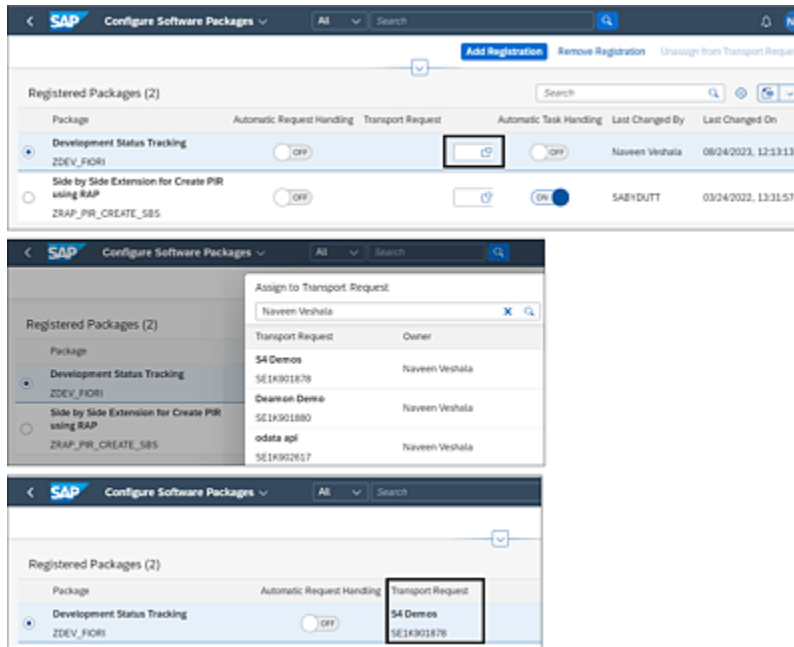

Figure 16.14 Assign the Transport to the Registered Package
2. Once the package is registered, the next step is to assign the transport request. Choose the package from the **Package** column, and then click on the value help in the **Transport Request** column to see all the transport requests in the popup. Choose the correct transport, and it will be shown in the **Transport Request** column in the main table (see Figure 16.14).